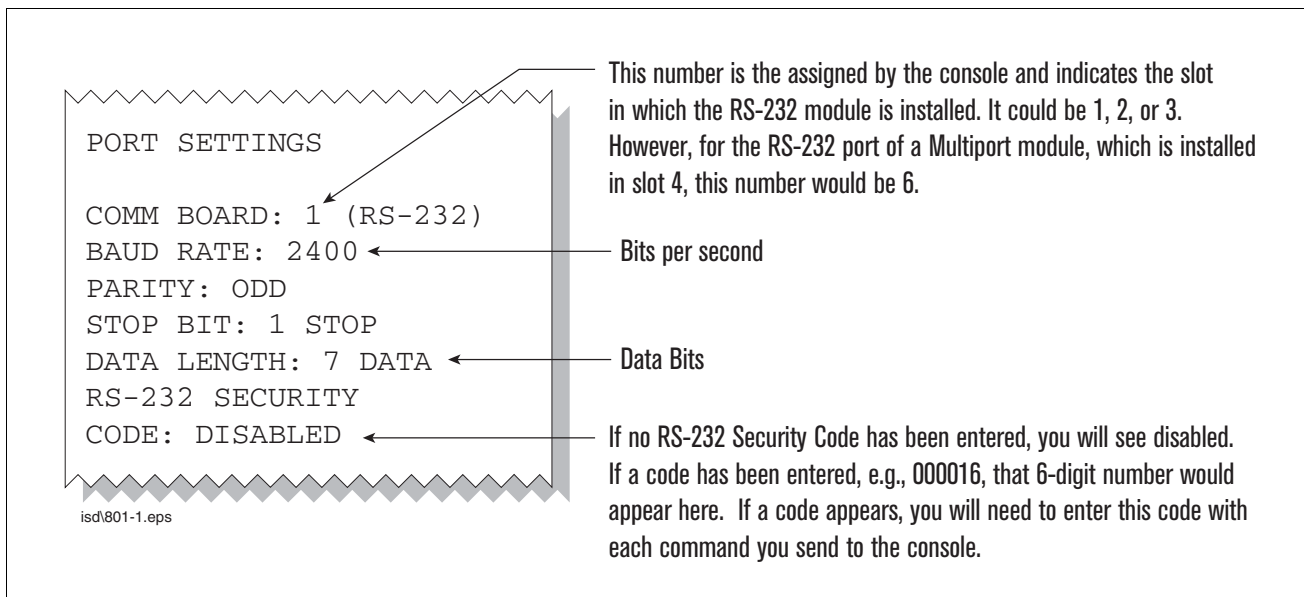

Figure 13. Console Comm Port Settings Printout Example
- d. Press the PRINT key to printout the port settings for all communication modules installed in the console. Figure 13 shows an example port settings printout with the RS-232 module installed. Using the console port settings in the example below, your HyperTerminal 'Port Settings' window entries would be Bits per second - 2400, Data bits - 7, Parity - Odd, Stop Bits - 1. For the 'Flow Control' entry select None. Click OK.